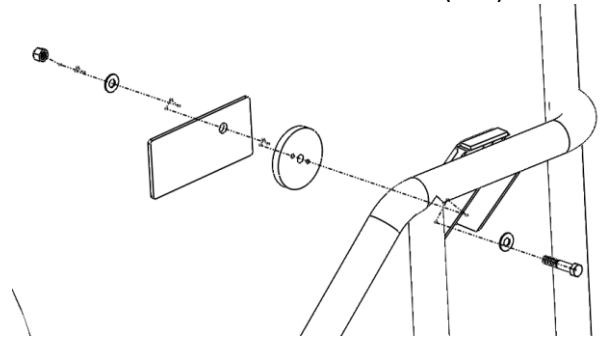

Figure 5: Center Mount Hardware Assembly (No Door Shown)
17. Use the inner door bracket and door backing plate when installing the center mount (reference Figure 5 & 6).